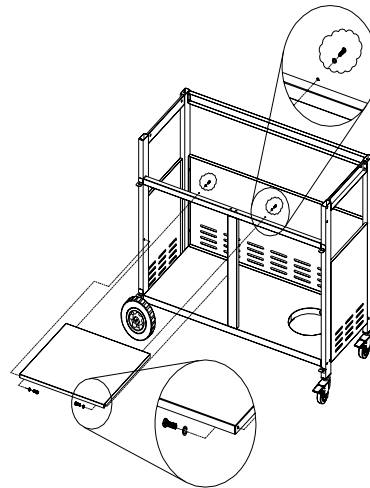

Figure 9
4. Attach the cart clapboard to the rear panel and front cart support using (4) 5/32 x 3/8" Phillips head screws and (4) 5/32" lock washers. (Fig.9)